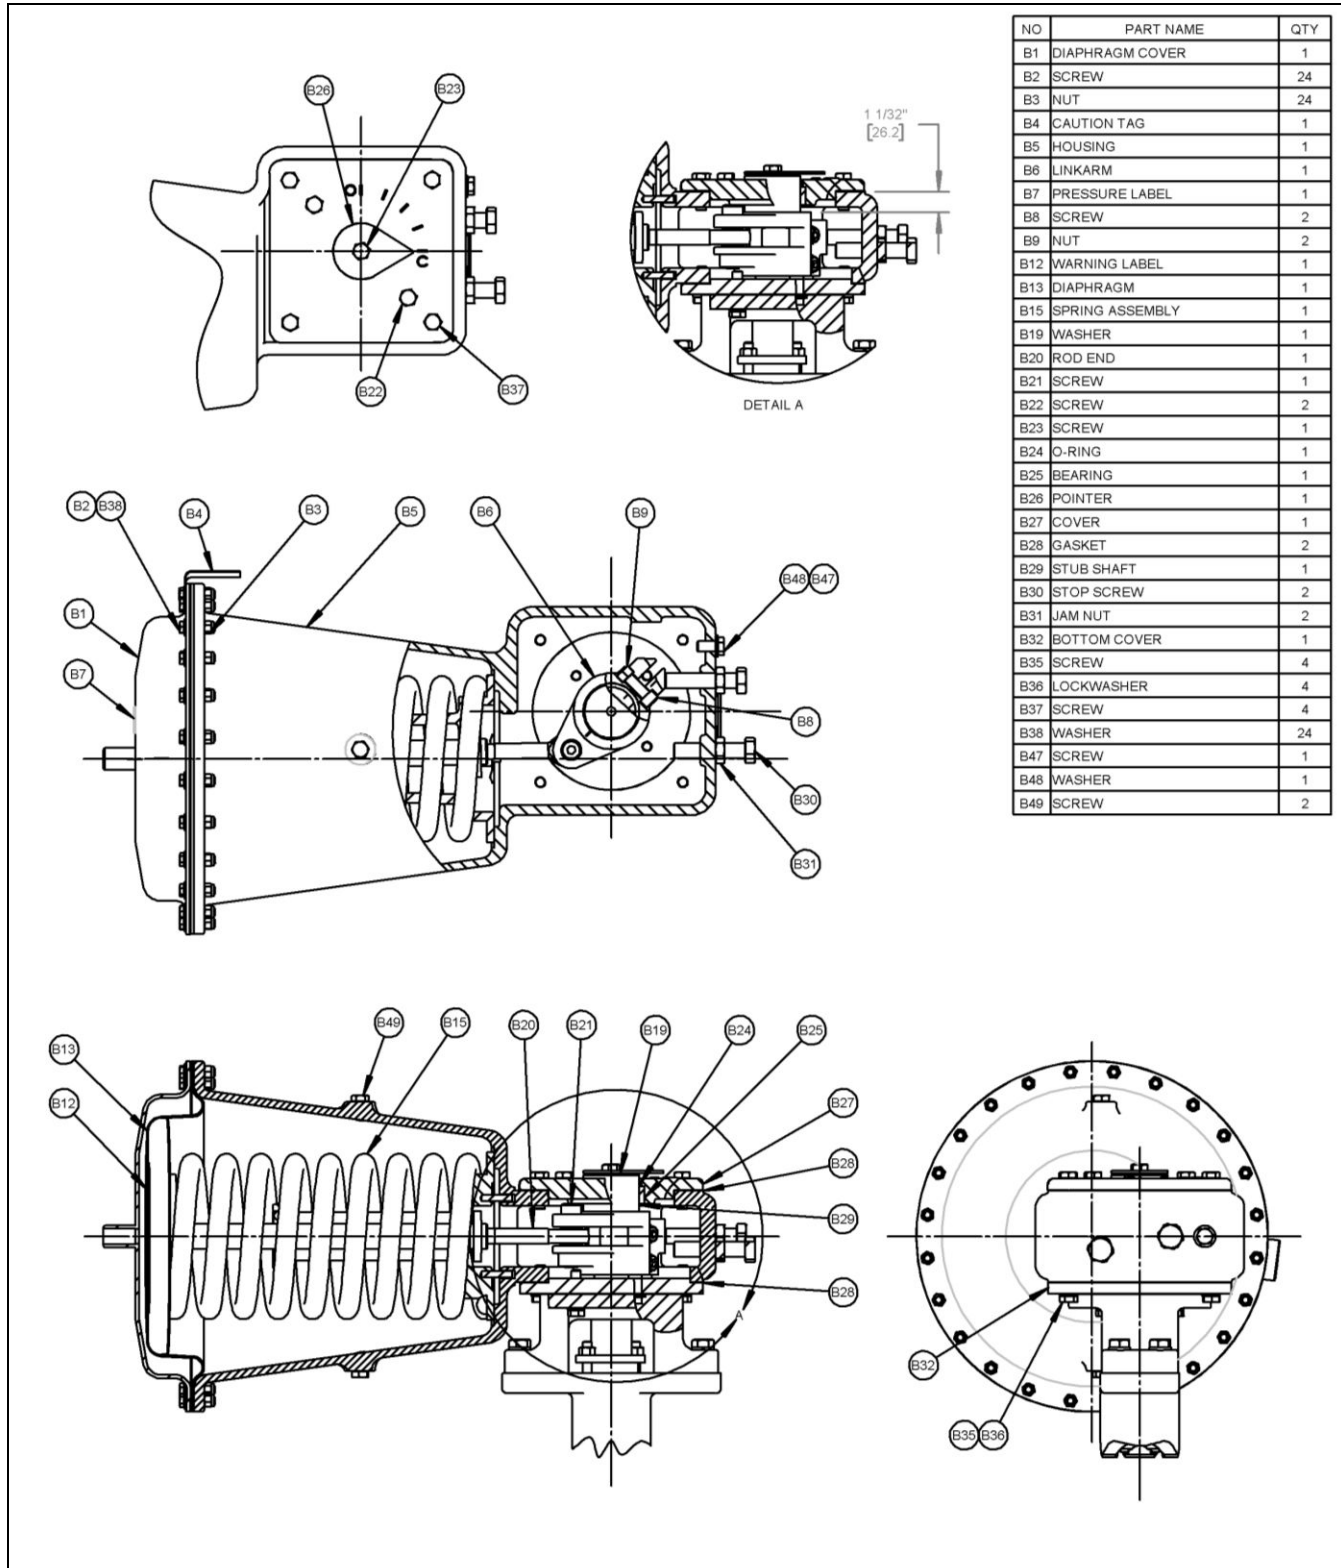

Figure 1 - Parts Identification
For high vibration installations, additional mounting support is recommended on the diaphragm end of the actuator to prevent damage to the actuator and/or the piping system. Mount the support from the pipeline to at least two of the diaphragm cover screws (B2) shown in Figure 1. Tighten the screws to  $18 \pm 2$  foot pounds ( $24 \pm 3$  Nm).
The open and closed position stops are the two hex head screws (B30) shown in Figure 1 and on Figure 2. The stops are adjustable and prevent the actuator from rotating beyond the open and closed positions of the valve. If the actuator is factory-mounted on the valve, the stops are preset and do not require further adjustment.
If the actuator is not factory-mounted on the valve, or if the actuator is removed and/or disassembled, the stops will require adjustment as described below. Refer to the valve Instructions for closed-position information and adjust the stops with the actuator mounted on the valve. Refer to Figure 1 for component identification.
2. Loosen the jam nut (B31) on the appropriate stop screw (B30). Refer to Figure 1.
2. Loosen the jam nut (B31) on the appropriate stop screw (B30). Refer to Figure 1 and Figure 2.
Refer to Figure 1 for component identification.
6. Position the link arm (B6) 1-1/32" (26.2 mm) below the top of the actuator as shown in Detail "A" of Figure 1.
Refer to Figure 1 for parts identification.